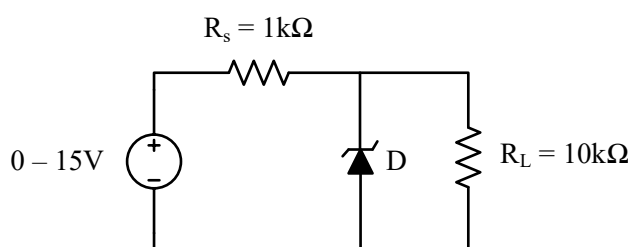

Fig. 3.1. Circuit diagram for implementing Zener diode as voltage regulator.
1. Connect the circuit according to Fig. 3.1.